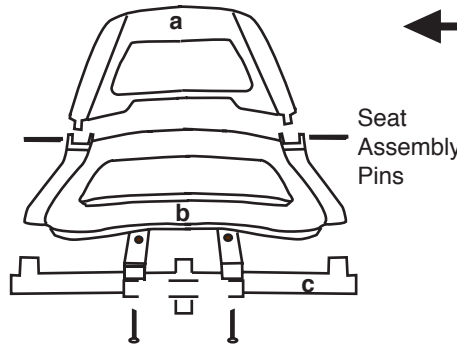

Fig. 1a
1. Assemble Seat Back to Seat Bottom using Seat Assembly Pins (see figure 1a).
1. Assemble Seat to Seat Support Frame Member using (4) Seat Screws. (See Figure 1a)